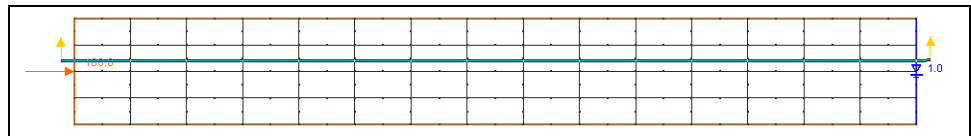

Figure 2 Mesh with observation arc
5. Using the **Create Feature Arc**  tool, create an arc down the center of the flume as shown in Figure 2.